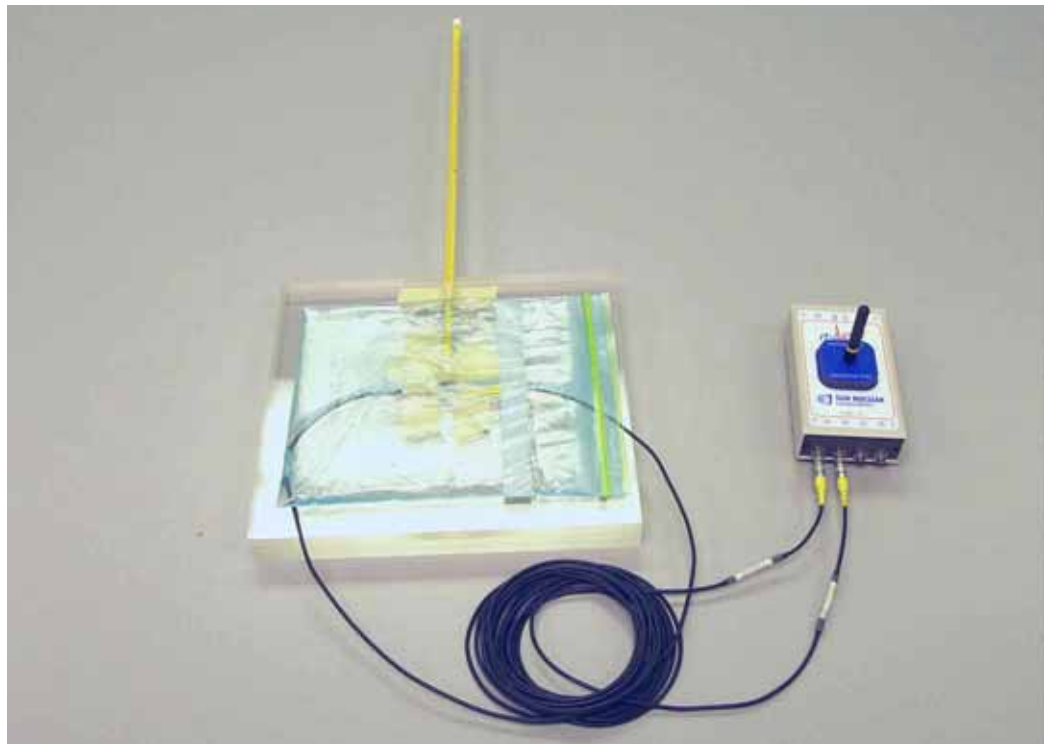

Figure 3-1. Place cool water bag over diodes prior to exposure
- 1 Tape a thermometer and the diodes on a room-temperature, 3 cm thick, acrylic phantom (Figure 3-1). The phantom provides a thermal mass during the test.
- 13** Place the cold water bag over the diodes (Figure 3-1).
- 22** Place the hot water bag over the diodes (Figure 3-1).